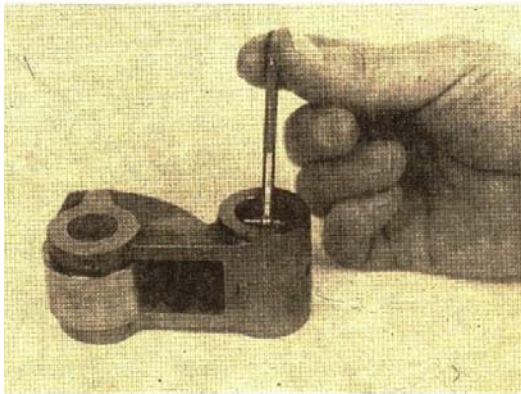

Fig. 4-4. Measure the cam follower inside diameter
4. Check the inside diameter of the cam follower for damage. Measure the inside diameter with a small bore gauge. Fig. 4-4. If worn larger than 0.8777 inch (22.28 mm), mark for replacement.